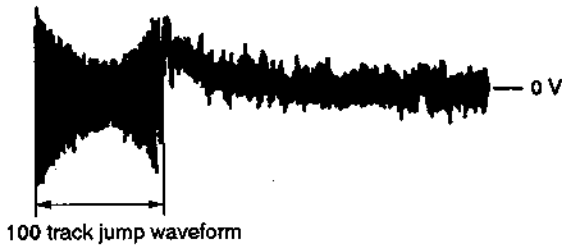

Fig. 3
7. Press ►►► (►►►) or ◄◄◄ key and observe the 100 track jump waveform. Check that no traverse waveform appears for both ►►► (►►►) or ◄◄◄ directions. (See Figures 3 and 4.) It is acceptable if the traverse waveform appears only now and then, but if it appears constantly, raise tracking gain slightly and check step 7 again.